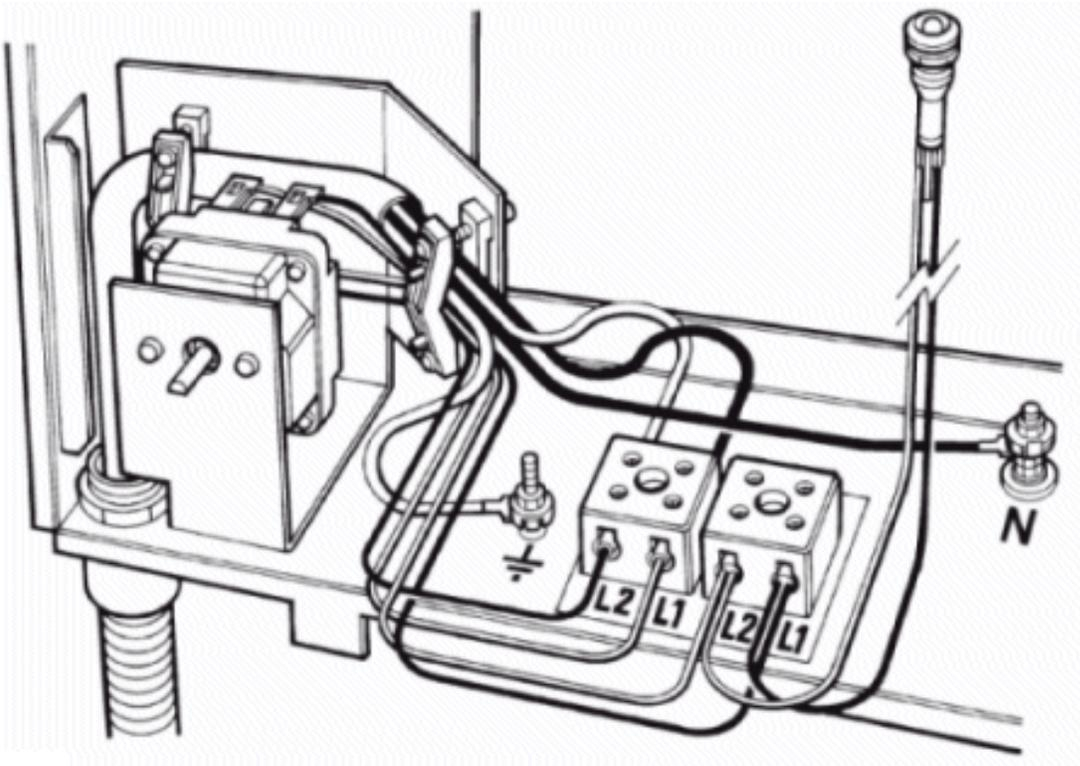

Fig. 2A DESN 513533
- A four-wire single phase 240-volt, 60-Hz, AC-only electrical supply is required on a separate, 30-amperes circuit, fused on both sides of the line. (See Fig. 2A - for wiring details).